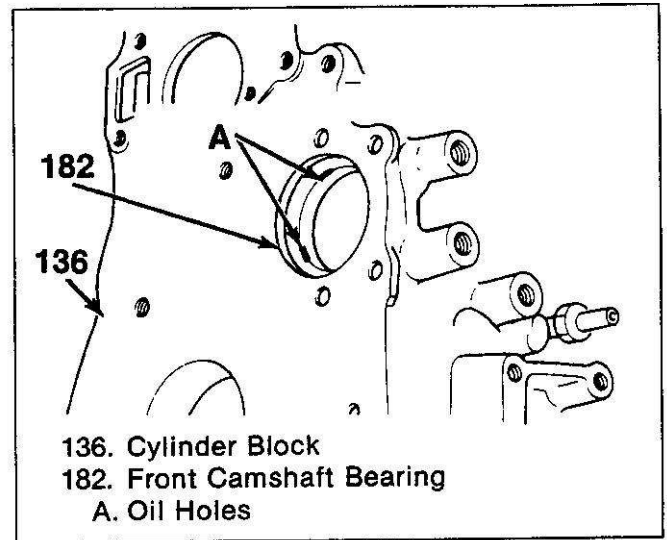
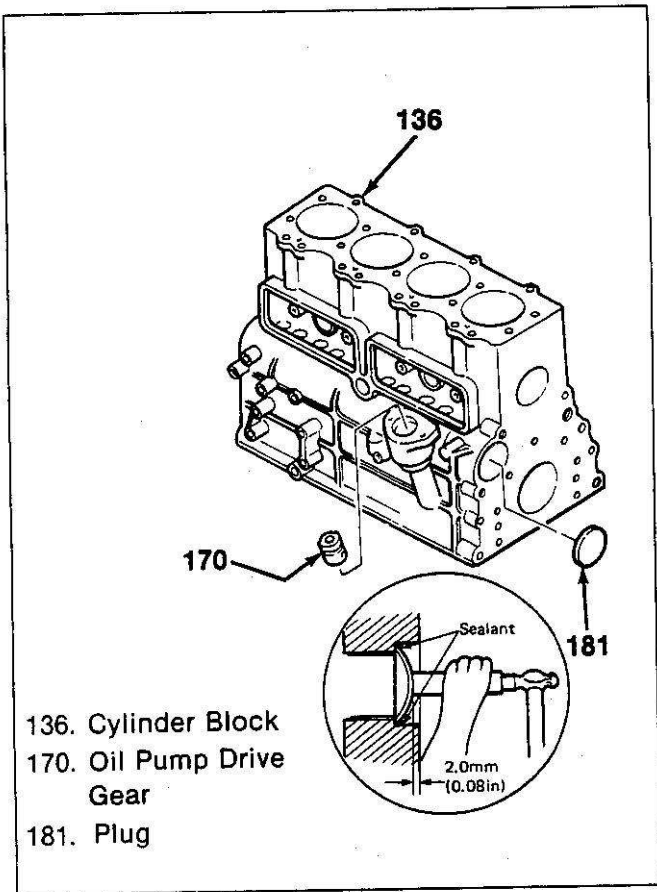

Figure 98. Aligning Camshaft Bearing Oil Holes
Figure 98a. Installing the Oil Pump Drive Gear and Plug
- The oil holes in the camshaft bearings (182) **MUST** align with the oil drillings in the block (figure 98). When installing the front camshaft bearing (182) **BOTH** holes must align, as shown.
6. Install the camshaft hole plug (181).
- Apply PERMATEX[®] No. QM-50A, 80A, or equivalent to the plug (181).
- Strike the convex portion of the plug correctly so that the plug may come to the bottom evenly (figure 98a).